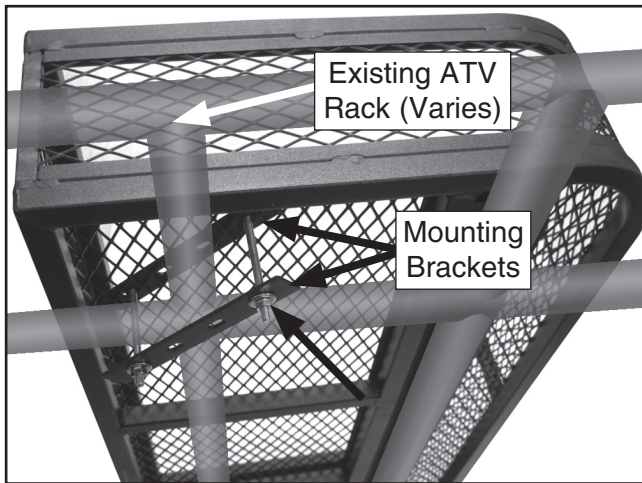

Figure 6. Installation (viewed from beneath).
- Secure each corner of the basket to the existing ATV rack using two mounting brackets, two M6-1 x 80 hex bolts, four 6mm washers and two M6-1 lock nuts, as shown in **Figures 6 and 7**.